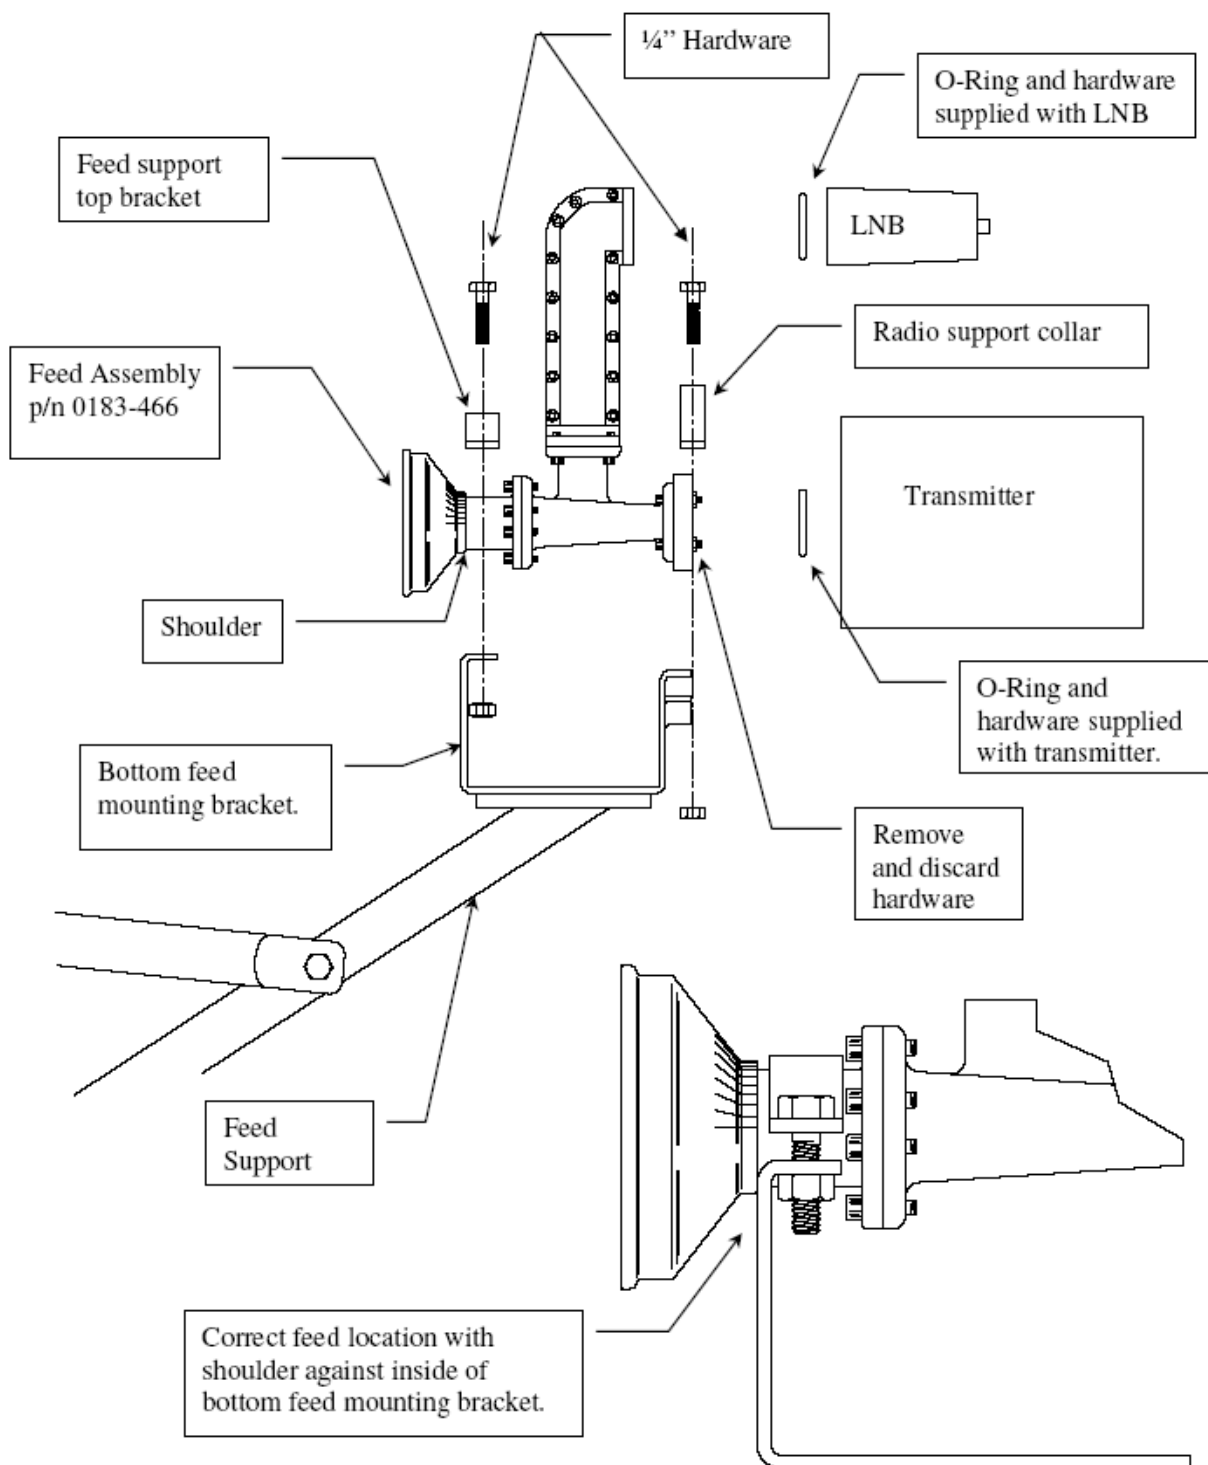

FIGURE 2.2-1
STEP 1: Attach the Transmitter to the thru port of the feed assembly as shown in Figure 2.2-1. Note: remove and discard the hex nuts on the feed assembly and use the O-ring supplied with the transmitter. Tighten securely.
- Place the feed assembly (from section 2.1 above) in the cradle of the bottom mounting bracket with the shoulder of the feed horn firmly against the face of the mounting bracket as shown in figure 2.2-1. Then attach the feed support top bracket with [2] 1/4-20 x 1.00" bolts, and [2] hex nuts. Do not tighten. Attach the radio support collar with [2] 1/4-20 x 1.00" bolts, and [2] hex nuts. The antenna system is now ready to be aligned to the satellite. After alignment and polarization adjustments are made, tighten all hardware securely.